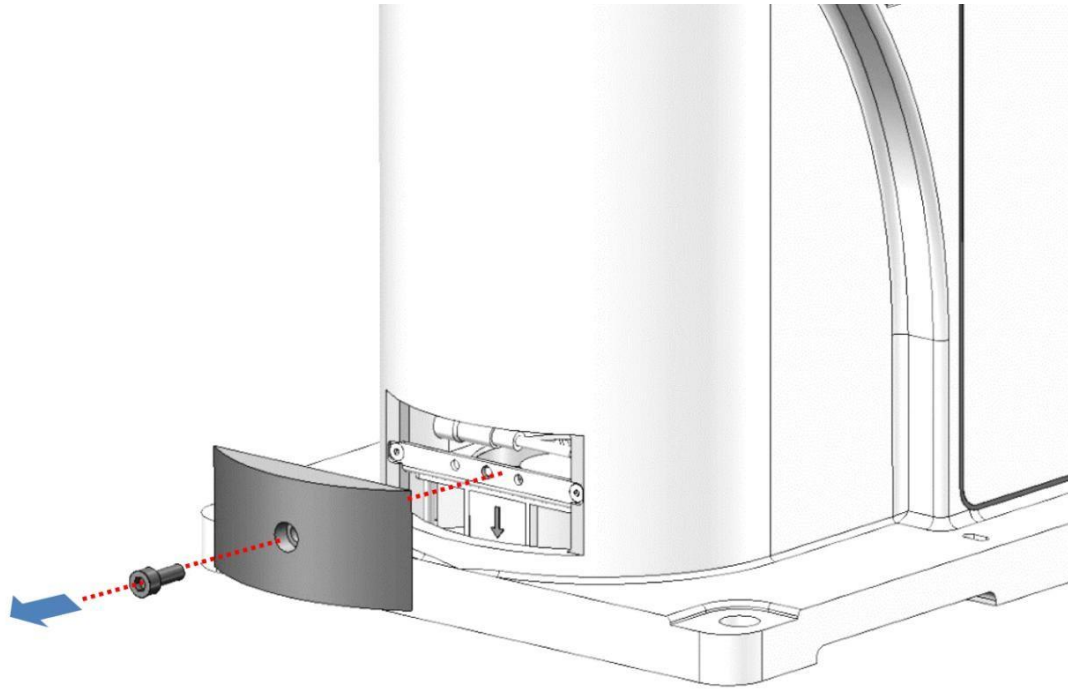

Figure 5-3 Take out the protective cover
Step 2 Use the Allen wrench to remove the fastening screws from the protective cover and take out the protective cover, as shown in Figure 5-3.